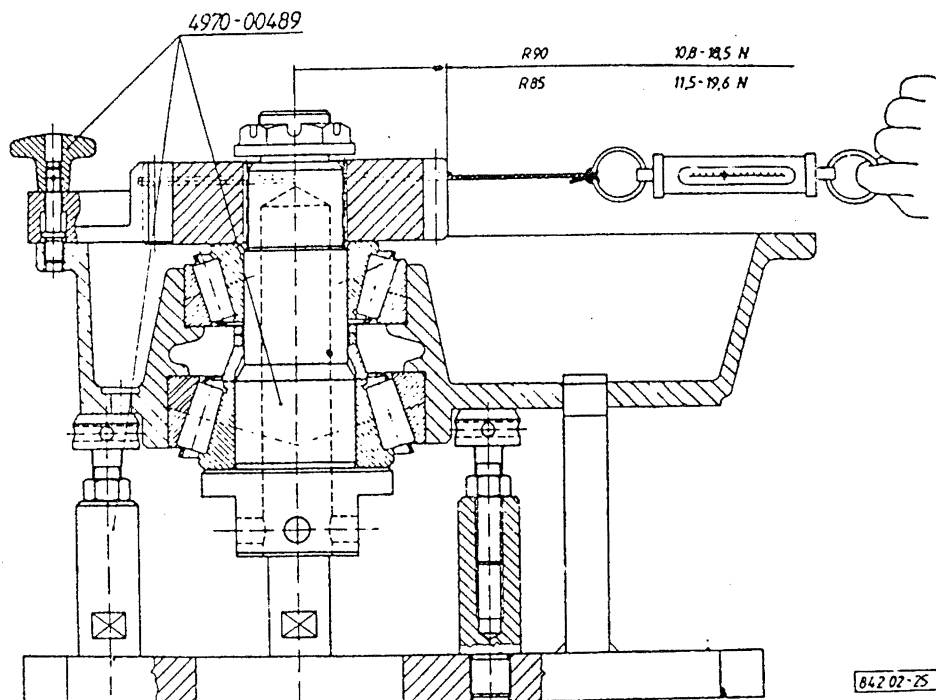

Fig. 4.: ADJUSTING THE BEARING PRELOAD
The distance between the outer taper roller bearing cone and the distance sleeve may vary between **13.890 to 14.715 mm**. For selecting the proper distance ring (10) this distance should be determined by measurement (X in Fig. 4.).
Position the inner taper roller bearing cone, the distance sleeve (11) and distance ring for filling the gap determined by measurement to the shown master shaft, then the subassembled differential carrier II, the outer taper roller bearing cone and the driven gear (50). Position the washer (2) and screw on the flanged castle nut (1) (Fig. 4.).
Tighten the nut to **540 - 590 Nm** torque and position the subassembled unit to the shown stand (Fig. 4.) and measure the rolling torque by means of fish-scale attached with cord to mantle of the driven gear (50).
Position the drive pinion subassembled in this way to stand of the adjusting device, secure the driven gear by lock of the device shown in Fig. 4. and tighten the self-lock nut to 540 - 590 Nm torque.